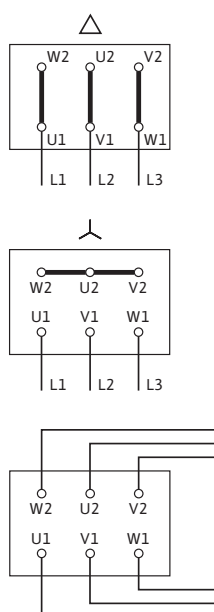

Fig. 11: Mains connection
- The connection diagram for electrical connections is in the cover of the terminal box cover (see also fig. 11).
- The mains connection to the terminal board is dependent on the motor power P_2 , the mains voltage and the start-up type. The recommended switching arrangement of the connection bridges in the terminal box should be taken from the following table and fig. 11.